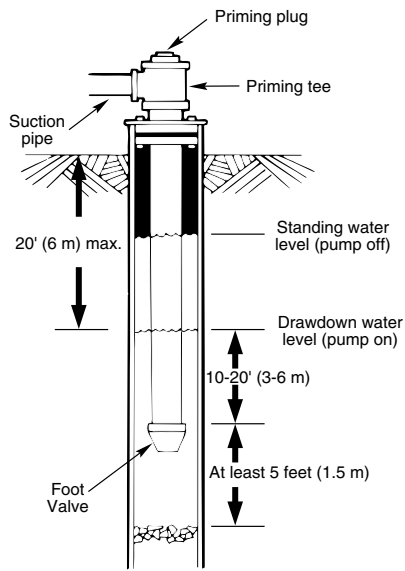

Figure 5 – Cased/Dug Well Installation
5. When using a foot valve, a priming tee and plug as shown in Figure 5 are recommended.